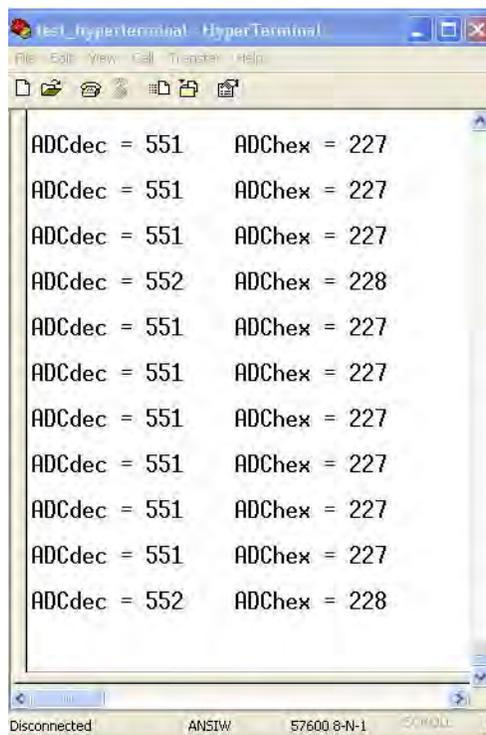

Figure 7. Hyperterminal Display
6. Sample view on Hyperterminal display is illustrated on Figure 7.